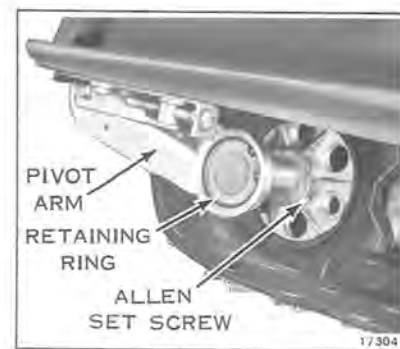

Figure 11-10
1. Remove retaining ring and bearing retainer. See Figure 11-10.
2. Push pivot arm towards sprocket. See Figure 11-10.
5. Inspect sprockets for excessive wear. Check for peeling of coating. If they must be replaced, loosen Allen set screws to remove sprockets from axle. See Figure 11-10.
TRUCK DISASSEMBLY (See Figures 11-10 and 11-11)